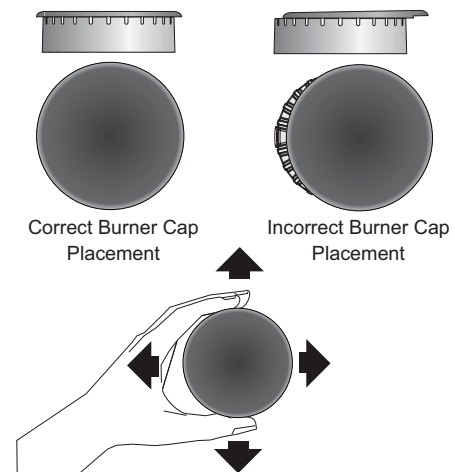

Figure 37: Replacing burner caps correctly
6. Before using the cooktop again make sure the burner caps are properly placed and seated on the burner heads (Figure 37). When placed correctly, the burner cap is centered on the burner head and will click into place on the burner head. You can wiggle the cap to test placement, it should not move off the burner head.